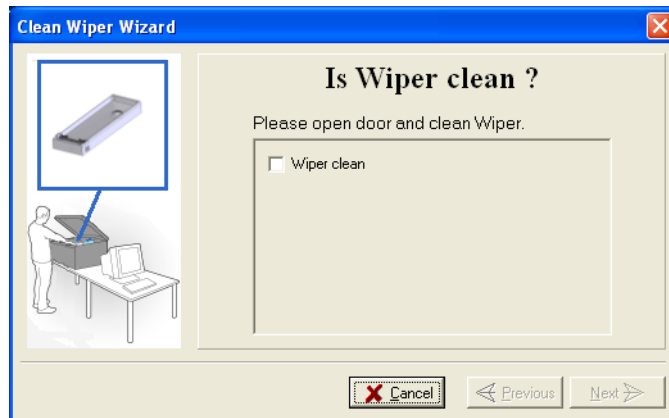

Figure 37 Is Wiper Clean Window
- In the wizard window (“Is wiper clean?”) (see Figure 37), select the confirmation check box and click **Next**. A Clean Wiper Wizard window opens.